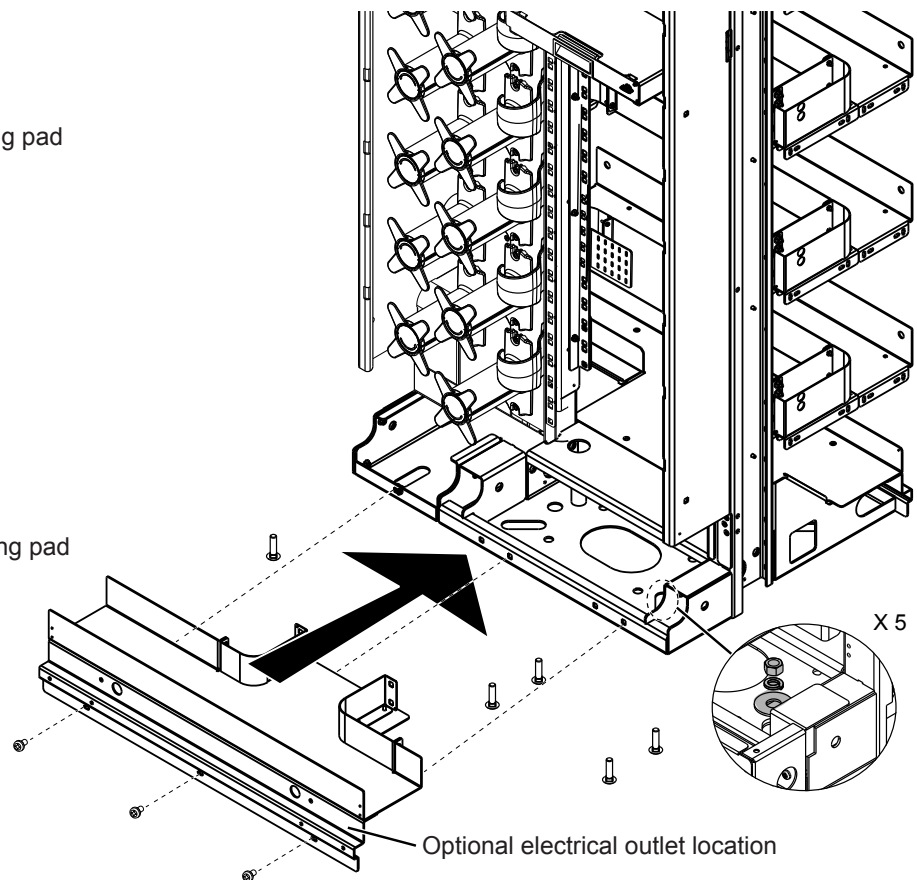

Figure 5
- Step 7:** Insert anchor bolts and place frame over bolts (Figure 5); or place frame over holes and insert anchor bolts, depending on the type of anchor bolts being used.
- Step 9:** Reinstall front trough (Figure 5).